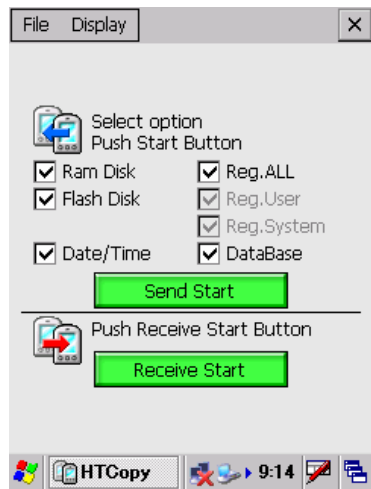

Fig. 4.94
1. Tap **Receive Start** button on each child terminal (if multiple terminals exist). See Fig. 4.94.